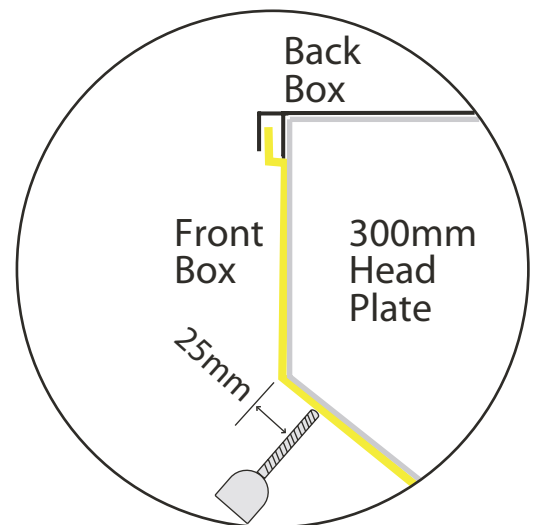

Fig 2
- (2) Once clipped along the entire length of the back box top lip place the internal cover tight to the head plates.
- (3) Drill and fix in place with self tapping screws or pop rivets.
- (4) Drill a hole (See Fig. 2) in the front cover to allow the manual over-ride bar to pass through and locate into the motor unit. Secure the over-ride to the head plate with self tapping screws.